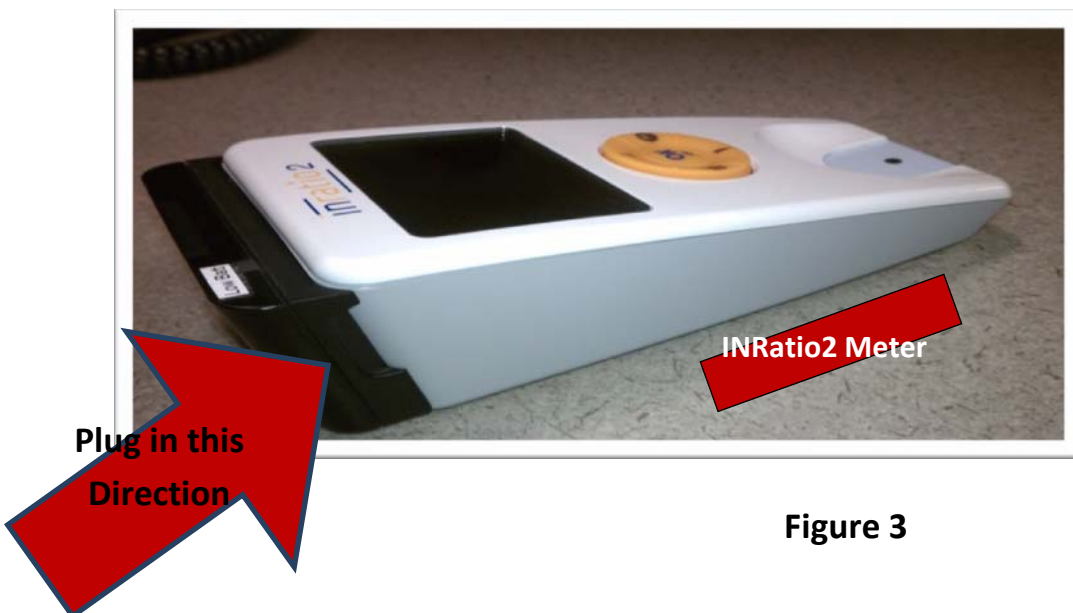

Figure 3
2. Connect the **Alere** AirLink to the INRatio2 meter. While inserting the connectors plugs into the INRatio2 meter make sure they go in evenly at the same time. Figure 3